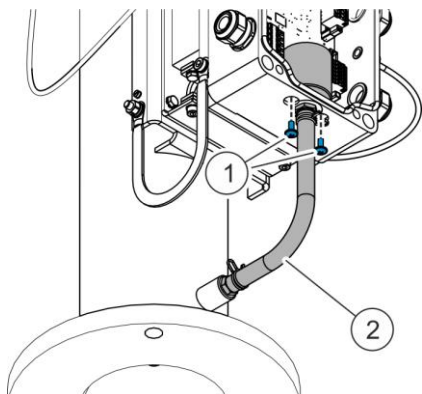

Fig. 58: Inserting the screws on the pressure sensor
8. Attach connecting hose (Fig. 58/2).
9. Tighten screws (Fig. 58/1).